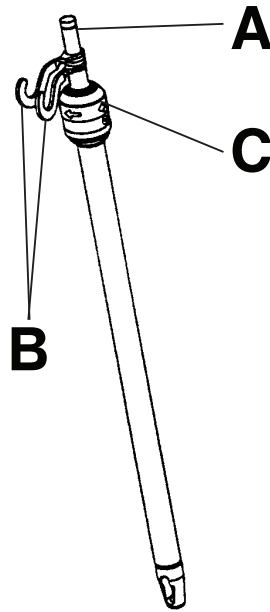

Figure 25 – HAVASU two-stage IV pole
2. To raise the height of the pole, pull up on the telescoping portion (A) of the pole until it locks into place at the fully raised position (Figure 25).
3. Rotate the IV hangers (B) to the desired position and hang the IV bags (Figure 25).
4. To lower the pole, turn the latch (C) clockwise until the telescoping portion (A) lowers into the bottom tube (Figure 25).